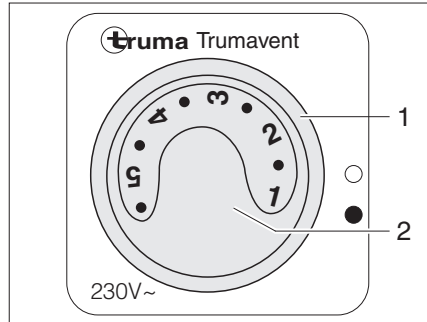

Fig. 107 Operating switch for circulation fan (240 V)
- Turn the rotary switch (Fig. 107,1) to "●".
- Turn the knob (Fig. 107,2) to the required position of the circulation fan.
- Turn the rotary switch (Fig. 107,1) to "○".